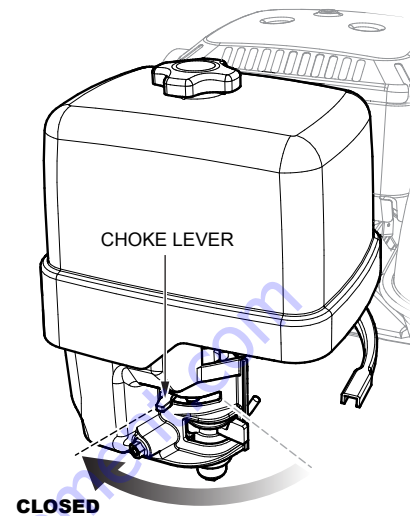

Figure 10. Engine Choke Lever (Closed)
4. Place the choke lever (Figure 10) in the **CLOSED** position if starting a cold engine.